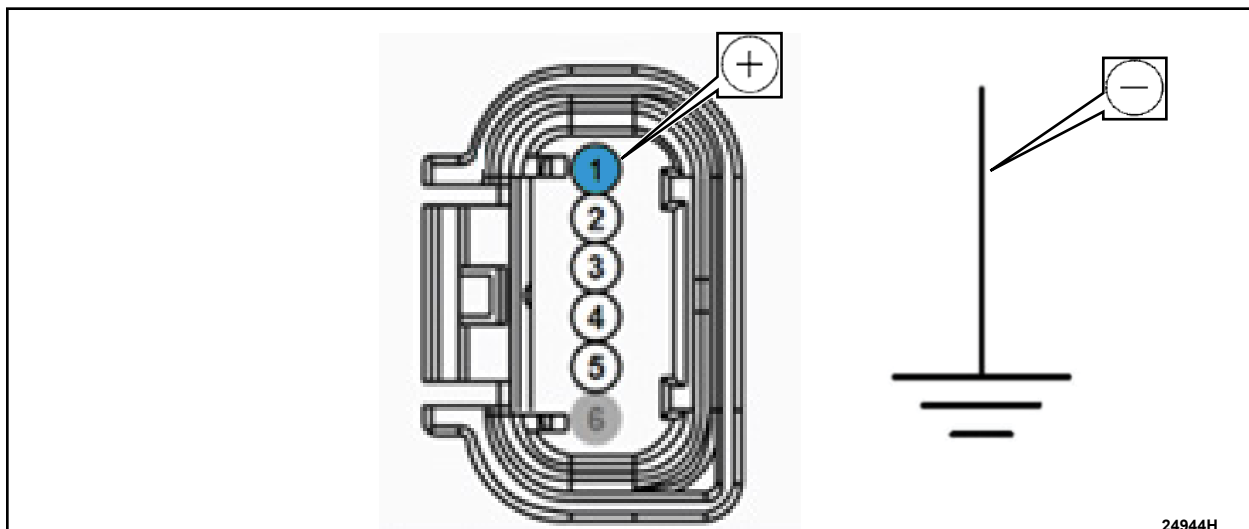

FIGURE 2
6. Check the voltage to the rear parking aid camera / video camera connector. See Figure 2.